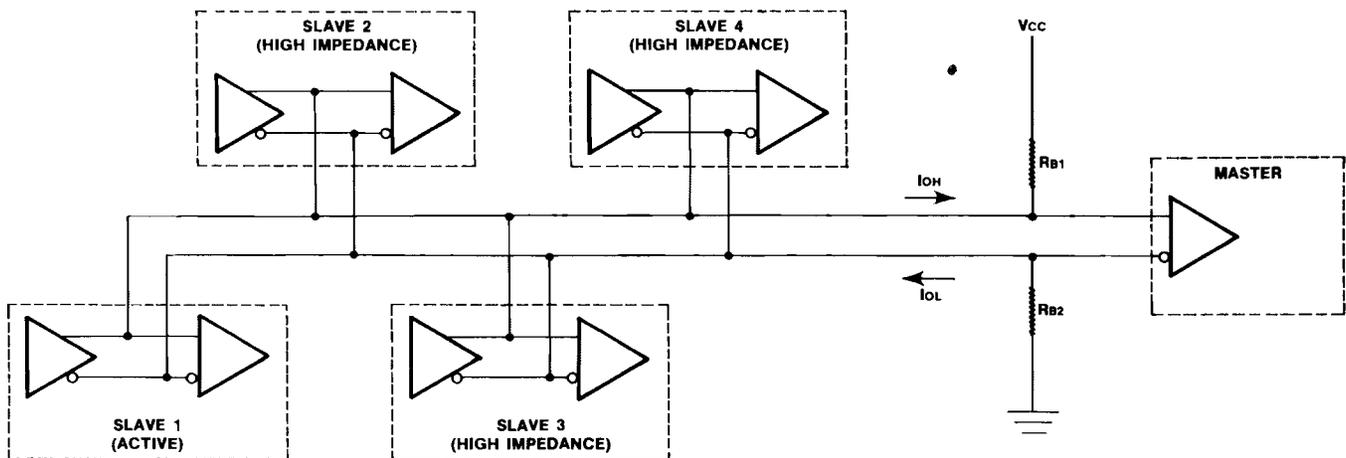

Figure A-4. System Example - Bias Resistance
b. As an example to calculate the bias resistance (R_B), assume that the system being configured contains four slaves as shown in figure A-4.